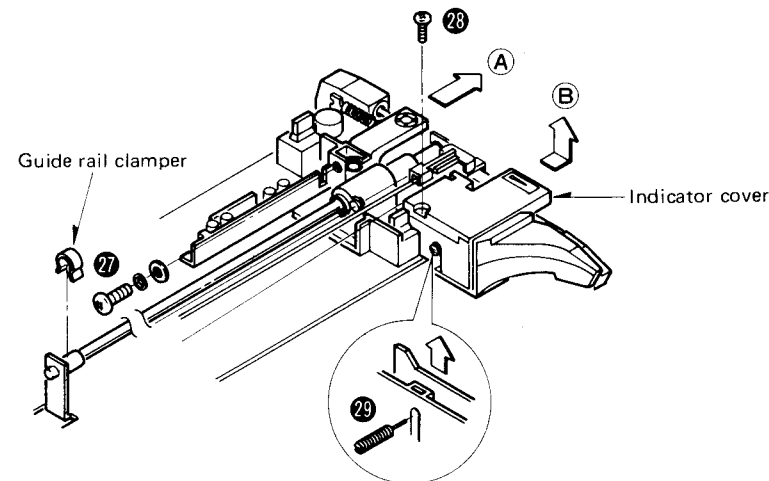

Fig. 14
- 5. Remove the tonearm setscrew. (Fig. 14 : 27)
- 2. Remove the indicator cover setscrew (Fig. 14: 28) and the indicator cover in the direction of the arrow B . (Fig. 14)
- 3. Remove the offset angle detection circuit board adjustment screw (Fig. 14: 29), then the offset angle detection circuit board can be removed.